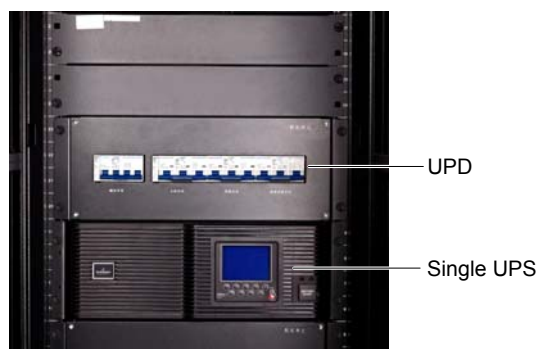

Figure 2-8 Complete rack installation of single UPS and UPD
4. The installation method of the UPD (UPS Power Distribution Unit) is the same as that of the single UPS. Just repeat the installation procedures of the UPS to install and fix the UPD. Then use four M6*16 panel screws to fix the UPS in the rack through the installation holes of the brackets, as shown in Figure 2-8.